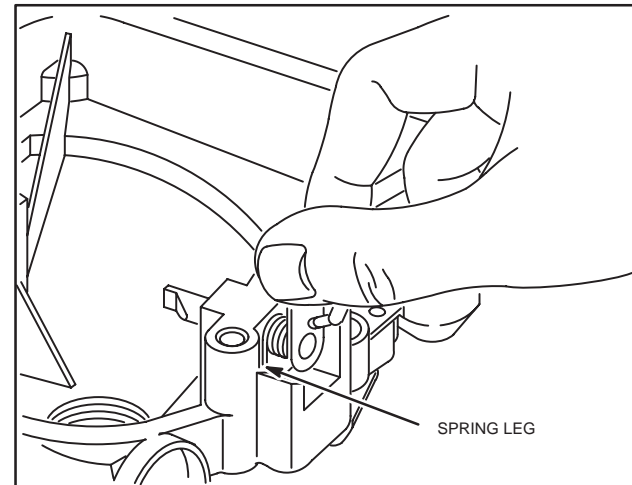

Fig. 166 – SPRING INSTALLATION
7. Install "E" ring. Leg of spring may need to be pushed against sump, Fig. 166.